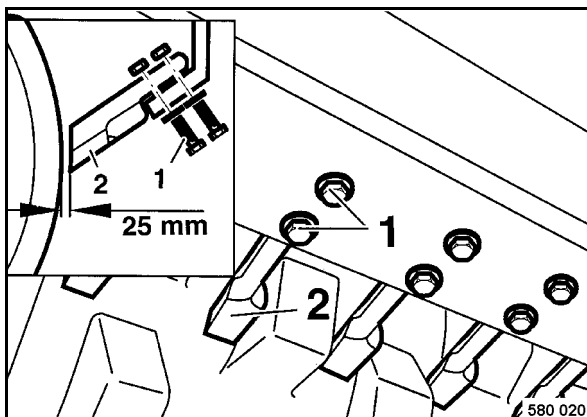

Fig. 115
- Check condition and adjustment of scrapers 2 (Fig. 115), adjust or replace the teeth if necessary.
- To adjust the scrapers (2) slacken the fastening screws (1) in the slots and move the scrap-